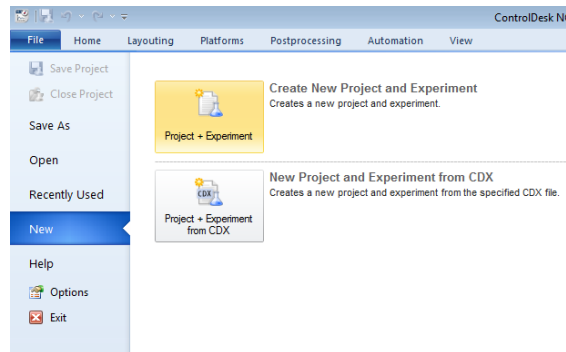

Figure 40: Creation of a new project in ControlDesk
1. Open ControlDesk 5.3. The first thing to do is to create a new project. This is done in the 'File' tab, in the option 'New', and selecting 'Create New Project and Experiment', as seen in figure 40.